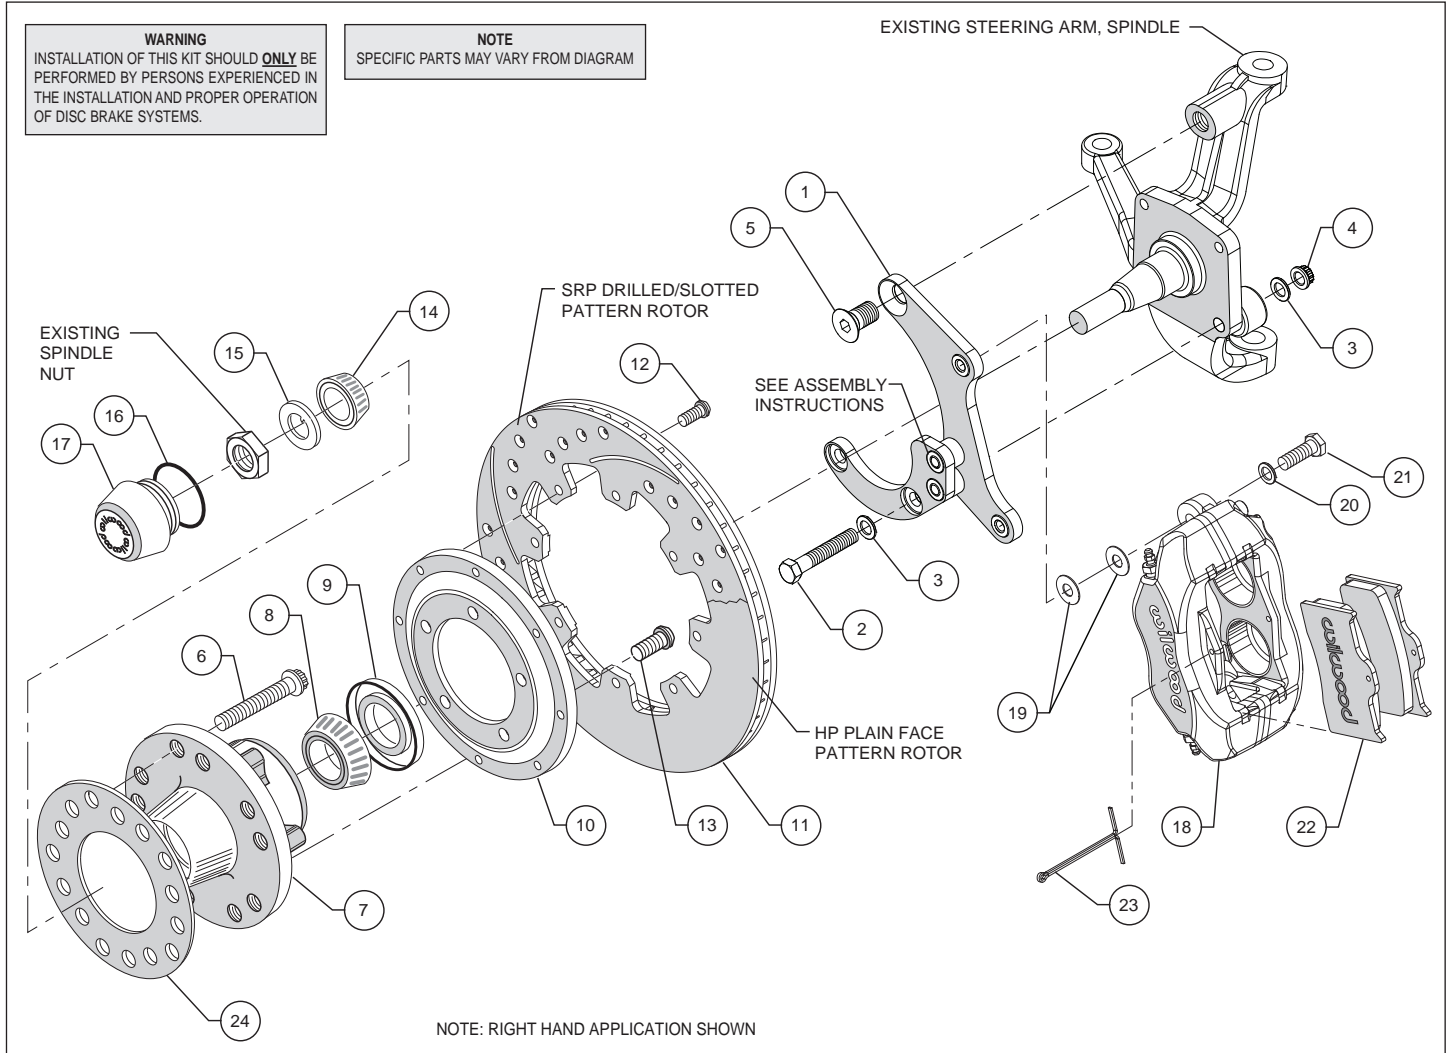
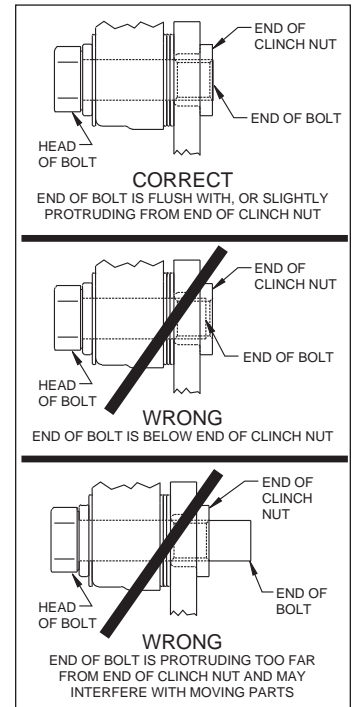

Figure 1. Typical Installation Configuration
Figure 3. Clinch Nut Engagement Diagram
Assembly Instructions (numbers in parenthesis refer to the parts list and Figure 1 on the preceding pages): **CAUTION:** All mounting bolts must fully engage clinch nuts. Be sure to check that all bolts are either flush or protruding through flanged side of clinch nut after shimming, Figure 3.
- The caliper mounting bracket (1) has been assembled at the factory for alignment purposes. Loosen the two bolts that secure the brackets together so that the bolts are hand tight only, this will enable the bracket assembly to be adjusted to accommodate various spindle tolerances during assembly. Align bracket with the two lower holes on the spindle face and attach using bolts (2), washers (3), and secure using lock nuts (4), as shown in Figure 1 and Photo 1. Install bolt (5) through top of bracket and into the spindle. Temporarily tighten the mounting bolts. Ensure that the flanged heads of the clinch nuts in the bracket are facing outboard, Photo 1. **NOTE:** The bracket must fit squarely against the mounting points on the spindle. Inspect for interference from casting irregularities, machining ridges, burrs, etc. Torque lower bolt nuts to 47 ft-lb. Remove the upper bolt, apply red *Loctite*® 271 to threads, and torque to 140 ft-lb. Remove one at a time the bolts that secure the bracket assembly to each other, apply red *Loctite*® 271 to the threads and torque to 40 ft-lb.
- Install the grease seal (9) by pressing into the backside of the hub (7), flush with the end of the hub, Photo 3.
- Orient the rotor (11) and the rotor adapter (10) as shown in Figure 1 and Photo 4. Attach the rotor to the adapter using bolts (12). Using an alternating sequence, apply red *Loctite*® 271 to the threads, and torque to 25 ft-lb.
- Mount the adapter/rotor assembly (10/11) to the hub (7) using bolts (13), as shown in Figure 1 and Photo 5. Using an alternating sequence, apply red *Loctite*® 271 to the threads, and torque to 55 ft-lb.
- Pack the small outer bearing cone (14) with high temperature disc brake bearing grease and install into hub (7). Slide the hub/rotor assembly onto the spindle. Secure using spindle washer (15) and OEM spindle nut, Photo 6. Adjust bearings by tightening the wheel bearing nut to 60 **in-lbs.** while turning the hub/rotor assembly (10/11). Install saved OEM nut lock (if any) on the wheel bearing nut with one pair of slots in-line with (covering) the cotter pin hole. Back off the adjusting nut lock assembly (or castle nut) one slot and install a new cotter pin (not supplied). **The resulting adjustment should be zero (no pre-load to 0.003 inch end play).**
- Screw dust cap (17) into hub (7), Photo 7. Friction created by the o-ring (16) on the dust cap keeps it from unscrewing. **NOTE:** The O.D. of the existing OEM spindle washer may be larger than the I.D. of the dust cap not allowing it to seat against the hub face. Therefore, use the spindle washer (15) supplied with the kit instead of the OEM washer.
- NOTE:** Please reference the caution statement at the beginning of the assembly instructions. Mount the caliper (18) onto the caliper mounting bracket (1) using bolts (21) and washers (20), as shown in Figure 1. Initially place two .035" thick shims (19) on each bolt between the caliper and the bracket, Photo 8. Temporarily tighten the mounting bolts and view the rotor (11) through the top opening of the caliper. The rotor should be centered in the caliper, Photo 9. If not, adjust by adding or subtracting shims between the bracket and the caliper. Always use the same amount of shims on each of the two mounting bolts. **NOTE:** The end of each bolt must be flush with or slightly protruding from the head of the clinch nut, as shown in Figure 3. If necessary place spare shims between washer (20) and caliper mounting ear to achieve the proper clinch nut engagement. Once the caliper alignment and clinch nut engagement are correct, remove the bolts one at a time, apply red *Loctite*® 271 to bolt threads, and torque to 40 ft-lb.
- Install the disc brake pads (22) into the caliper, with the friction material facing the rotor (11), and secure in place using cotter pin (23), Photo 10.